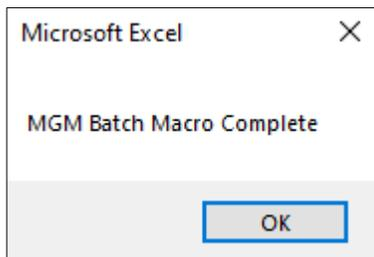

Figure 11. Batch Macro Complete message.
15. If the Batch Macro is successful, a "Batch Macro Complete" message will appear (Figure 11). Review the "Submitted Crop Plans", "Out Stand Summaries", "Out Trees", "Out Yields", and "Error Log" worksheets. The Batch Macro start/stop dates and run time will be listed in the "Error Log" worksheet.